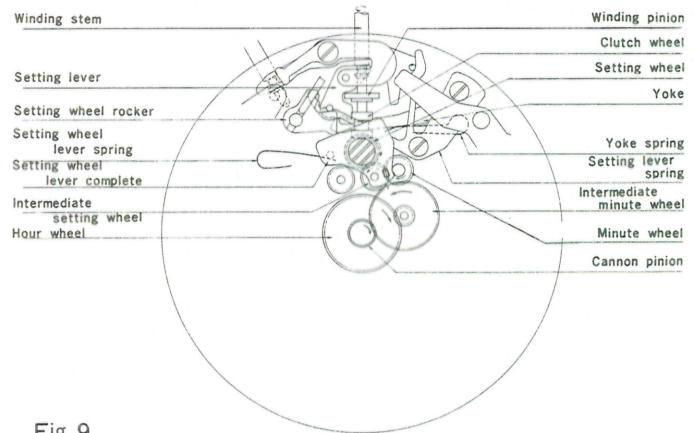

Fig. 9
**Turning the hands (Fig. 9)**